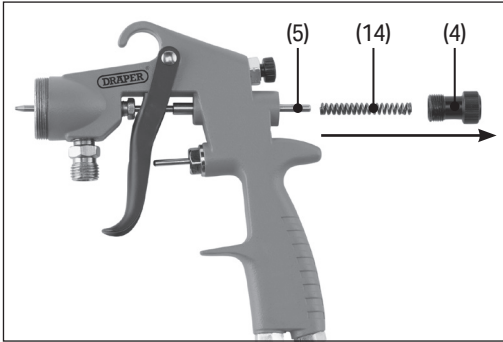

Fig. 4
4. Remove the spring (14) and fluid needle (5) from the chamber via the back of the spray gun (Fig. 4).